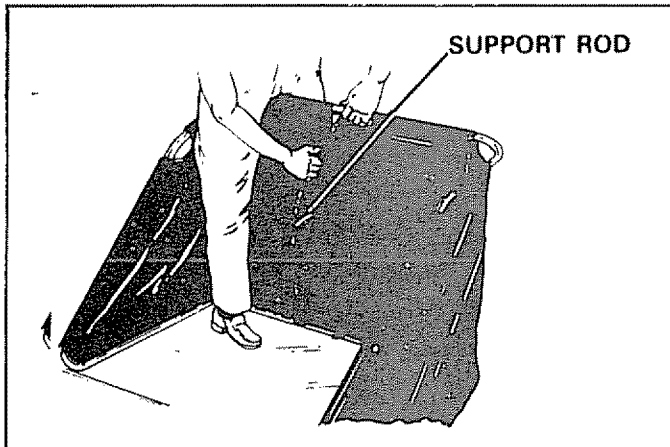

FIGURE 19
11. Assemble the two hopper support rods as shown in figures 19 and 20. Place top end of rod into hole in upper tube and bend rod outwards and snap bottom end of rod into hole in bottom tube. **NOTE: Rods are spring steel and require bending or bowing as shown. Do not over bend and lose bag support tension.**